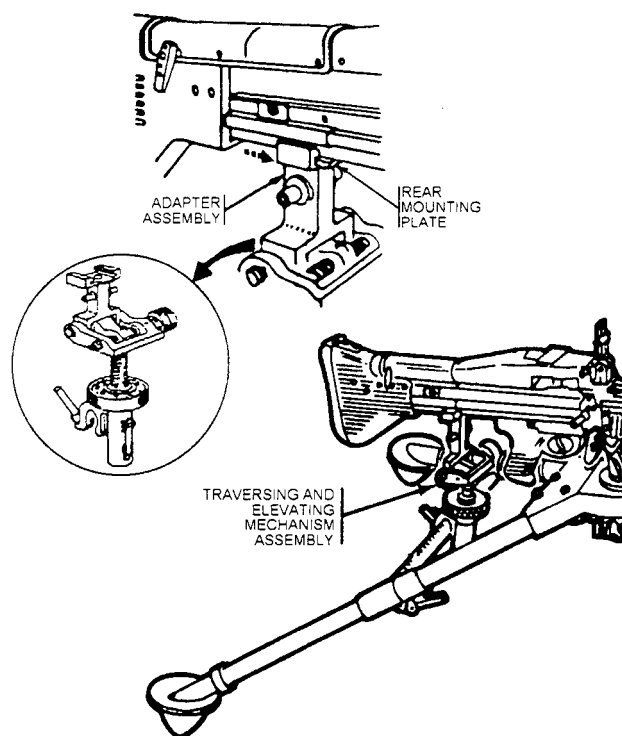

Figure 13-14.—Attaching the traversing and elevating mechanism.
(2) position the front locating pin (in the forearm assembly) in the front mounting lug; and (3) lower the receiver so the rear locking pin snaps under the platform latch.
To attach the traversing and elevating mechanism, take the following steps: (1) mount the gun on the tripod, release the platform lock, and raise the rear of the gun; (2) place the mounting plate recess on the rear of the mounting plate and push it forward, as shown in figure 13-14 (the adapter pin automatically locks into position in the bottom of the mounting plate); and (3) lower the rear of the gun, place the traversing slide (with the traversing slide-lock lever to the rear) on the traversing bar, and lock into position.